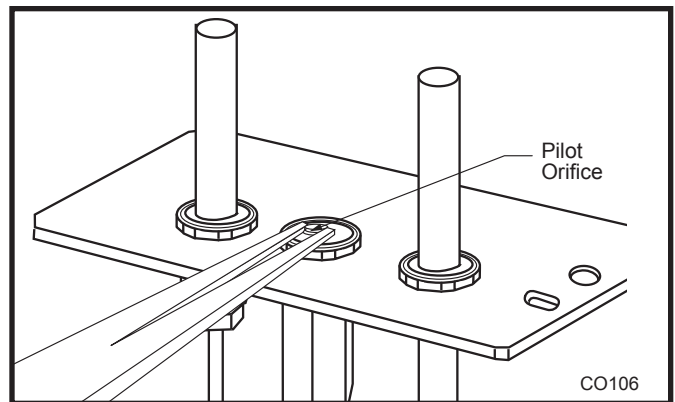

Fig. 73 Remove pilot orifice.
12. Remove pilot orifice with needlenose pliers. (Fig. 73)